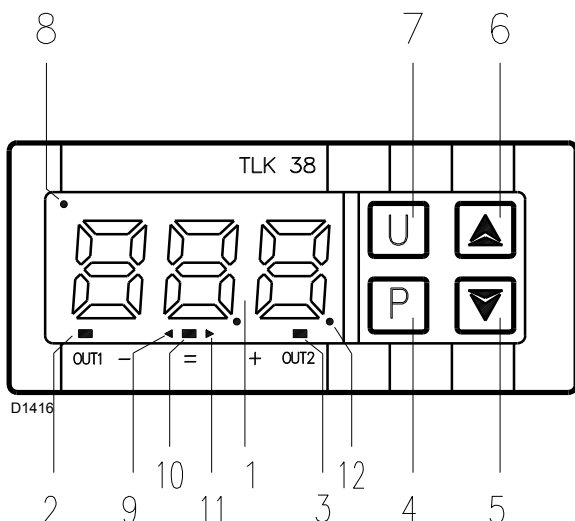

Fig. 22
- remove the plug from the fitting of the pressure gauge 3)(Fig. 22), unscrew valves 15) and 32)(Fig. 4) by two to three turns, and wait for fuel to flow out of the pressure gauge fitting;
TERMOREGOLATORE (Fig. 22)
LEGENDA (Fig. 22)